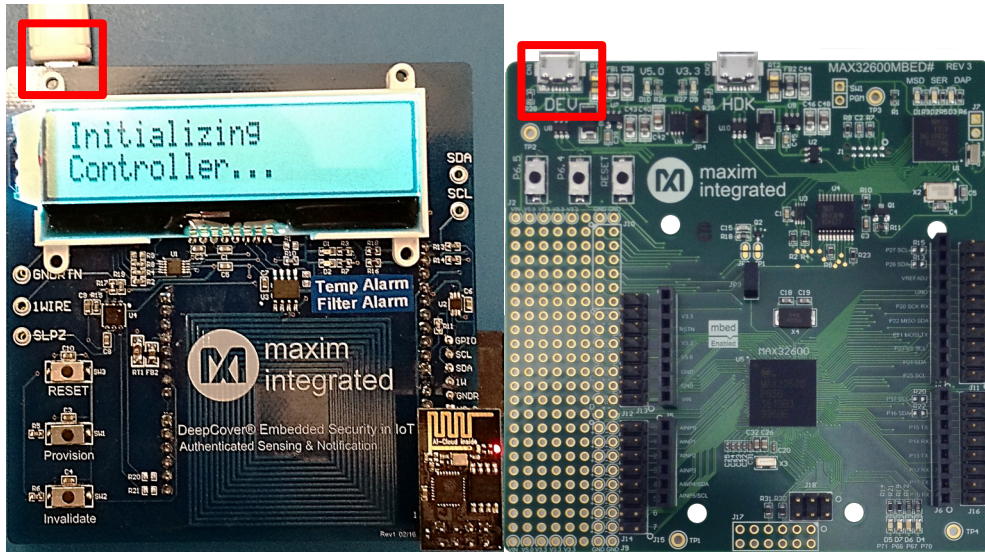

Figure 12. Connecting to the Wi-Fi network.
3. Power the MAX32600MBED through the DEV USB port. The ESP8266 immediately begins connecting to the specified Wi-Fi network (**Figure 12**).